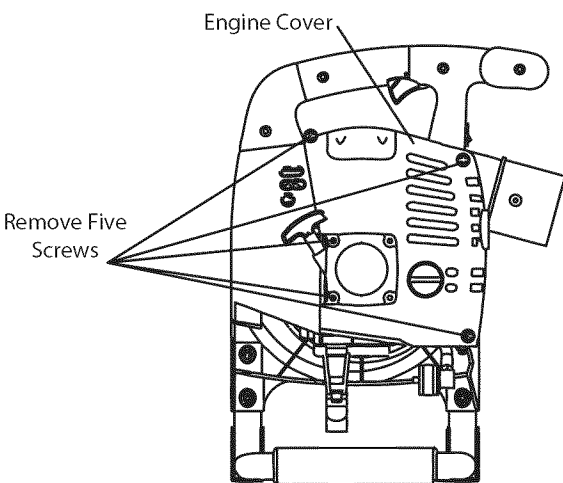

Fig. 22
1. Remove the five screws on the engine cover with a phillips head screw driver (Fig. 22).